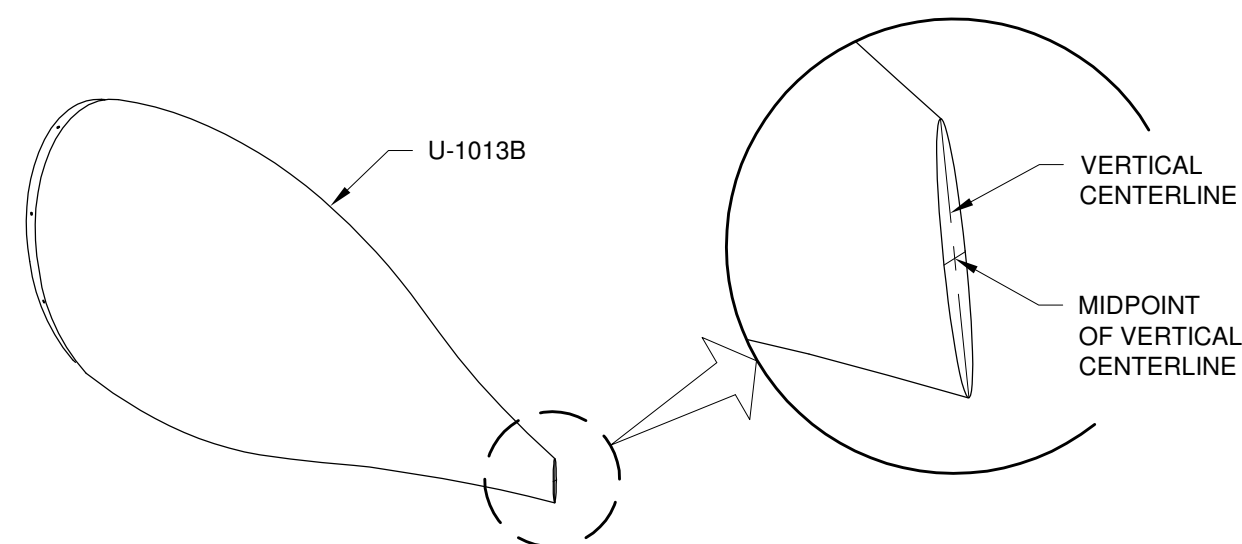

FIGURE 4: DRAW REFERENCE LINES AT AFT END OF FAIRING
Step 5: Draw a vertical centerline on the U-1013B Wheel Fairing Rear as shown in Figure 4. Place a mark at the midpoint of the vertical centerline as shown in Figure 4.